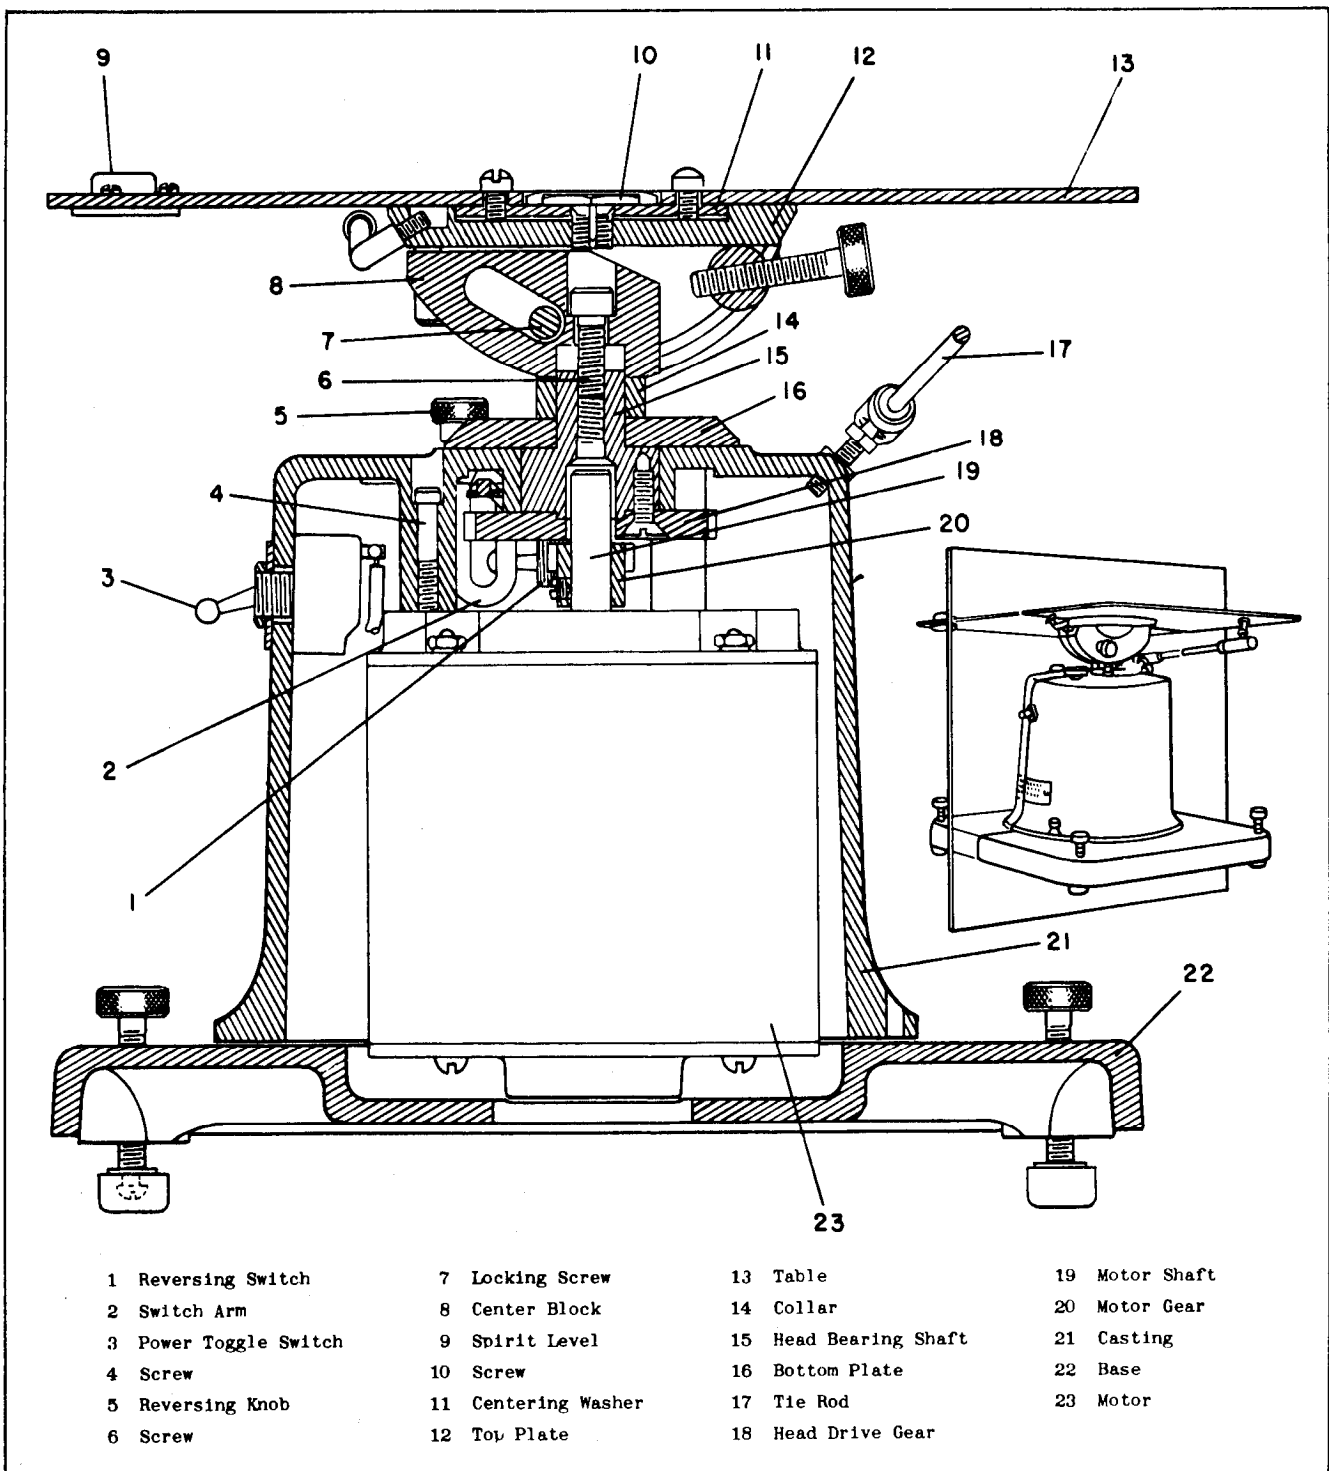
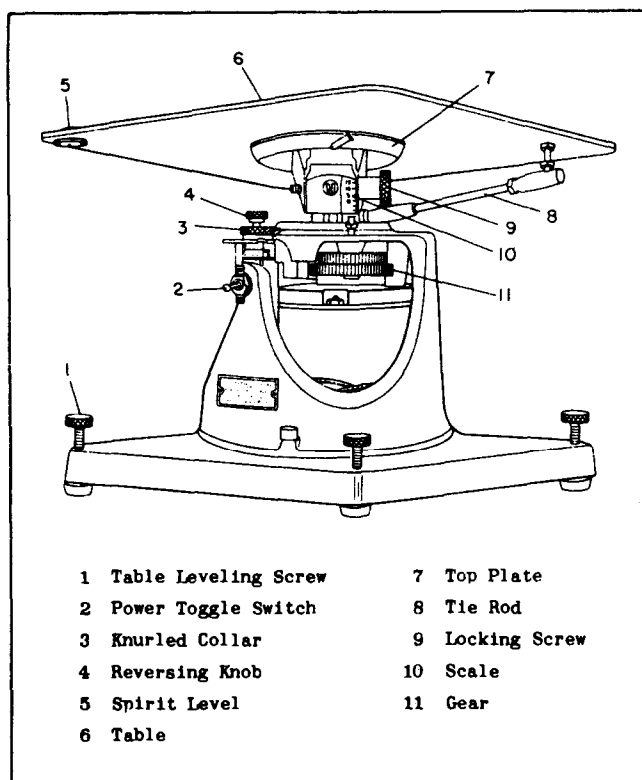
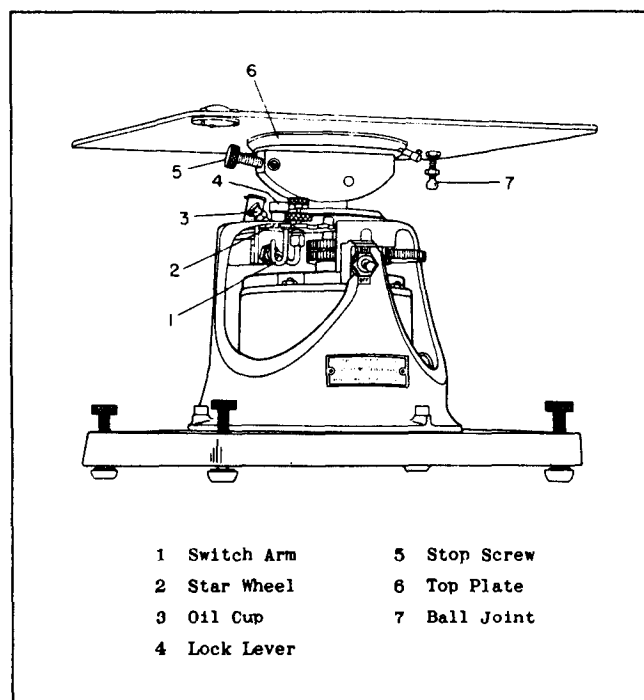

Figure 1-2. Sectional View - Table Scorsby
Figure 1-3. Sectional View - Table Scorsby (Right Side)
Figure 1-4. Sectional View - Table Scorsby (Left Side)
c. To apply oil to the shaft of the reversing switch (1, fig. 1-2) and to the ball joints (not shown), dip a piece of wire into the oil to collect a small drop at the end. Transfer the oil to the part by touching the wire to the part.
d. To apply grease to the gears (11, fig. 1-3), remove the half-inch hole-closing cap (not shown) on the right top of the casting (21, fig. 1-2) to expose the gears (11, fig. 1-3). Dip the end of a piece of wire into the grease and transfer the grease to the gears by touching the wire to the teeth of the gears. Rotate the gears while applying the grease.
Gears (11, fig. 1-3)-----
b. Disassemble the motor (23, fig. 1-2) until the bearings are accessible,
of the headplate, gears, table retaining screw (10, fig. 1-2), and the star wheel (2, fig. 1-4) with a brush dipped in cleaning compound.
f. Apply a thin coat of grease (GL), to the table bearing surface (not shown) on the headplate, and to the head of the table retaining screw (10, fig. 1-2). Replace the table (par. 6-10).
1-9. The motor gear (20, figure 1-2), attached to the motor shaft (19), drives the head drive gear (18) through a series of intermediate gears. The head drive gear is screwed to the bottom of the head bearing shaft (15).
1-13. **TABLE TILT.** The top surface of the center block (8, figure 1-2) is not completely horizontal. The rear section of this part slants down at a 15-degree angle. Since the center block has a slot rather than a hole for the locking screw (7), the top (12) and side plates, and therefore the table (13), can be tilted to any angle up to the 15-degree limit set by the sloping side of the center block. To tilt the table, loosen the locking screw and press on the edge of the table at the stop-screw end.
1-15. **SCORSBY MOTION.** To obtain Scorsby motion the table (6, figure 1-3) must be prevented from rotating. By attaching the table tie rod (8) to the ball joint (7, figure 1-4) the table is held to the stationary case. Thus, if the motor is running, the top plate (7, figure 1-3) will rotate but the table (6) will be prevented from turning. If the table is tilted, Scorsby motion results.
1-160 **TURNTABLE MOTION.** To obtain turntable motion remove the tie rod (8, figure 1-3) at the ball joint (7, figure 1-4). If the motor is running, the top plate will rotate, carrying the table with it.
1-18. The Table Scorsby incorporates a feature which allows for either automatic or manual reversing of the table. With the reversing knob (4, figure 1-3) in the upper position, the table will automatically reverse every six cycles (approximately every minute). Manual reversal of the table is accomplished by turning the reversing knob when it is in the lower position.
1-19. The reversing knob (4) is held in either the upper or lower position by a ball and spring device. In the upper position of the reversing knob, the switch arm (1, figure 1-4), which is attached to the shaft of this knob, meshes with the star wheel (2). The star wheel is rigidly attached to the knurled collar (3, figure 1-3). The star wheel is driven by a series of gears to the motor shaft. Since the switch arm operates the reversing switch, lifting the knob to the upper position allows the motor to actuate the reversing switch (1, figure 1-2), thus achieving automatic reversal of the table.
1-20. When the reversing knob (4, figure 1-3) is in the lower position, it does not mesh with the star wheel (2, figure 1-4). Thus, the switch arm (1) is disconnected from the motor shaft (19, figure 1-2) and automatic reversing cannot occur. By manually turning the reversing knob, however, the switch arm will operate the reversing switch.
1-25. DEVELOPMENT OF SCORSBY MOTION. The Table Scorsby will produce Scorsby motion when the tie rod (9, figure 1-3) is connected to the table (6) and the table is tilted. As the motor rotates, its motion is transmitted through the linkage to the top plate (12, figure 1-2) which also turns. However, since the table tie rod is linked to the table by a tie rod terminating in ball joints (7, figure 1-4), rotation of the tilted
top plate (12, figure 1-2) under the table results in nutation of the table.
4-2. Set the table of the Table Scorsby T-100925 in the horizontal position. Adjust the four screws (1, figure 1-3) to level the Table Scorsby, as indicated by the spirit level.
4-9. A power toggle switch (2, figure 1-3) is provided for starting and stopping the motor of the Table Scorsby.
4-11. **TIE ROD.** The tie rod (8, figure 1-3) when connected to the ball joint (7, figure 1-4) prevents the table (6, figure 1-3) from turning. If the table is tilted and the motor is running, Scorsby motion will result.
4-12. **TABLE LEVELING SCREWS AND SPIRIT LEVEL.** The four table leveling screws (1, figure 1-3) are provided to enable the Table Scorsby to be leveled, as indicated on the spirit level (5).
4-13. **POWER TOGGLE SWITCH.** The power toggle switch (2, figure 1-3) is provided to control the application of
4-14. **REVERSING KNOB.** The reversing knob (4, figure 1-3) is provided to allow either the automatic or manual reversing features of the Table Scorsby to be utilized. By loosening the knurled collar (3) and lifting up the reversing knob, the Table Scorsby can be set to reverse automatically every six cycles (approximately once a minute). The direction of rotation of the table may be reversed at any time by moving the knob to the lower position, and then turning it.
4-15. **TABLE TILT AND STOP SCREW.** By pushing on the edge of the table at the stop screw (5, figure 1-4) end, the Table Scorsby may be tilted to any angle up to 15 degrees. The scale (10, figure 1-3) on the center block is provided to indicate the angle of tilt. By setting the table to the desired angle and then turning the stop screw in, the table, if leveled, may then be returned to the angle set by the stop screw.
4-16. **LOCKING SCREW.** The locking screw (9, figure 1-3) is provided so that when it is tightened it will hold the table (6) in the position to which it is tilted. By exerting a force of eight pounds on the edge of the table, however, the hold of the locking screw may be overpowered.
4-17. **FRICTION LOCK.** The friction lock feature is utilized to lock the head to the casting. To operate the friction lock, press out and back on the lock lever (4, figure 1-4).
4-25. Displace the Table Scorsby 7-1/2 degrees from the horizontal by pressing on the edge of the table (6, figure 1-3). Be sure the stop screw (5, figure 1-4) is unscrewed sufficiently to permit the desired tilt. Connect the tie rod (8, figure 1-3) to the ball joint (7, figure 1-4).
4-26. Start the Table Scorsby by moving the power toggle switch (2, figure 1-3) to the "ON" position. Place switch of the Analyzer in the "FAST" position. Allow the gyro to settle, that is, the maximum voltage on the vtvm reached on each oscillation of the Table Scorsby should be the same.
a. Tilt the table. Operate the motor unit until the scale on the center block (8, figure 1-2) is towards the front. Test the table to see that it can be tilted and held in position by the locking screw (9, figure 1-3).
b. Check that the stop screw (5, figure 1-4) can be turned in and out.
c. Check that the automatic reversing knob (4, figure 1-3) can be raised and lowered. The knurled collar (3), under the reversing knob, can be rotated to allow the reversing knob to be raised and lowered.
d. Lifting the reversing knob (4, figure 1-3) to the upper position should automatically reverse the table. Putting the reversing knob in the lower position should make the table run in only one direction. Change the direction of rotation by manually rotating the reversing knob in either direction.